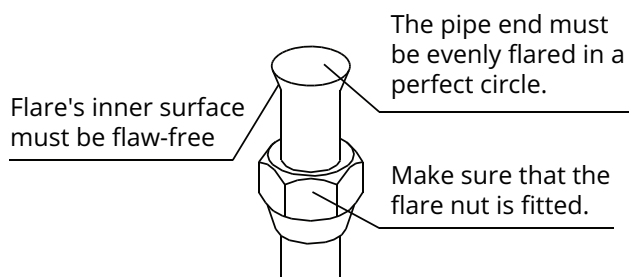

Fig 5.5
4. Flare the pipe. Set exactly at the position shown in **Fig 5.5**.